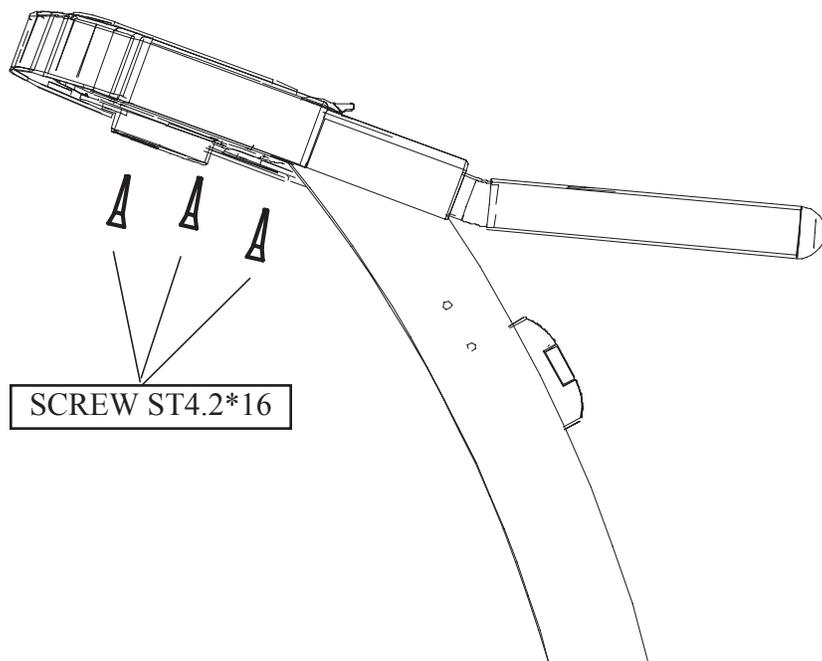

Figure 9: Console Back Cover Installation
10. Make sure all wires and harnesses are inside console housing and attach the console back cover to the Left and Right Upright mounting brackets using Screws ST4.2\*16 (Qty. 6) as shown in Figure 9.